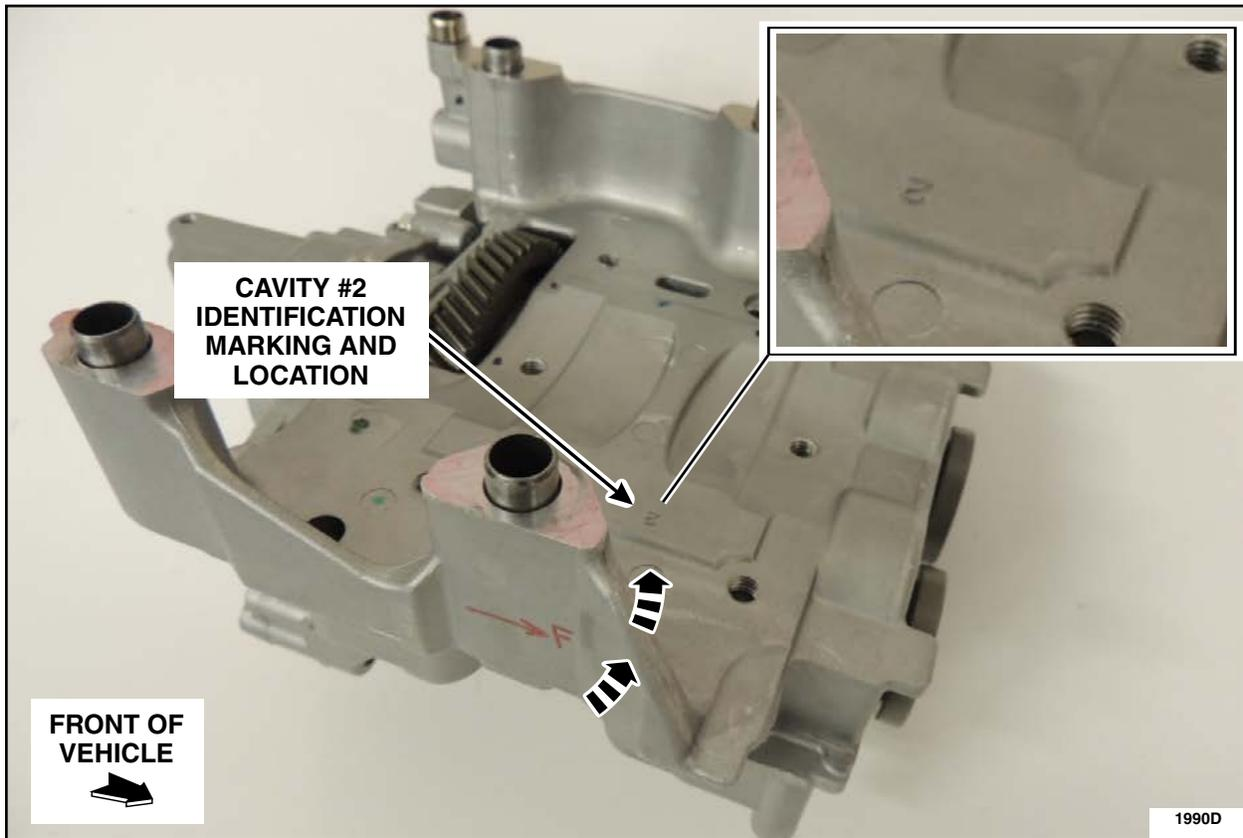

FIGURE 4
- Inspect for a cavity number on the top of the balance shaft and oil pump assembly. Look for landmarks as you guide the camera along the top of the balance shaft and oil pump assembly. Refer to Figures 4, 5, 6 and 7 for identifying landmarks and the location of the cavity number.